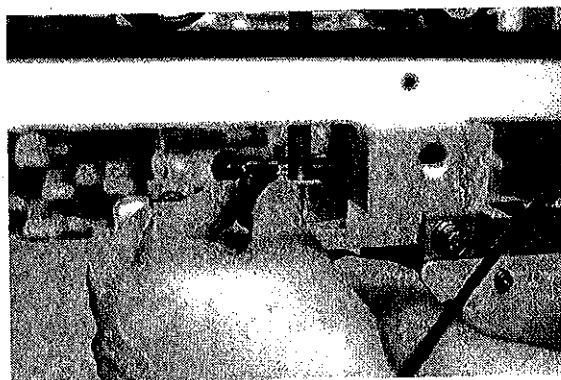

Figure 16 Tighten the Model Clamp
8. Tighten the model clamp on the Balance Assembly (see Figure 16).